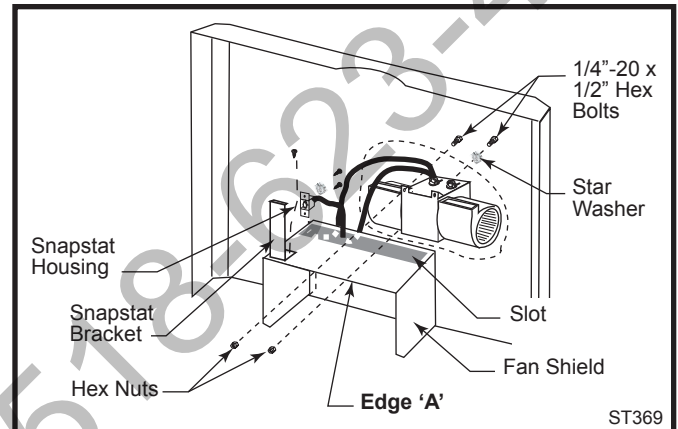

Fig. 12 Position fan behind rear shroud.
3. Position the fan behind the rear shroud. (Fig. 12) Pass the fan rheostat assembly and snapstat assembly beneath the stove toward the front.
5. Attach the snapstat housing to the snapstat bracket with two sheet metal screws and one #8 star washer. (Fig. 12)
6. Attach the snapstat bracket, with the snapstat assembly attached to it, to the horizontal surface on the inside of the rear shroud. Use a sheet metal screw. There are predrilled holes at each corner of the panel for this. The vertical part of the snapstat bracket should be 3/16" back from Edge 'A'. (Fig. 12)
7. Attach the fan assembly to the rear shroud using two 1/4"-20 x 1/2" hex head bolts, two 1/4" -20 nuts and one 1/4" star washer. (Fig. 12)